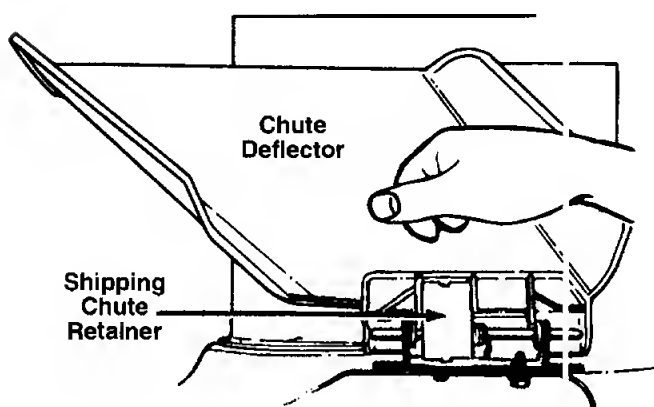

FIGURE 12.
1. The chute deflector on your mower is held in an upright position by a retainer for shipping purposes only. This shipping retainer must be removed and discarded before the mower is put into operation. See figure 12.